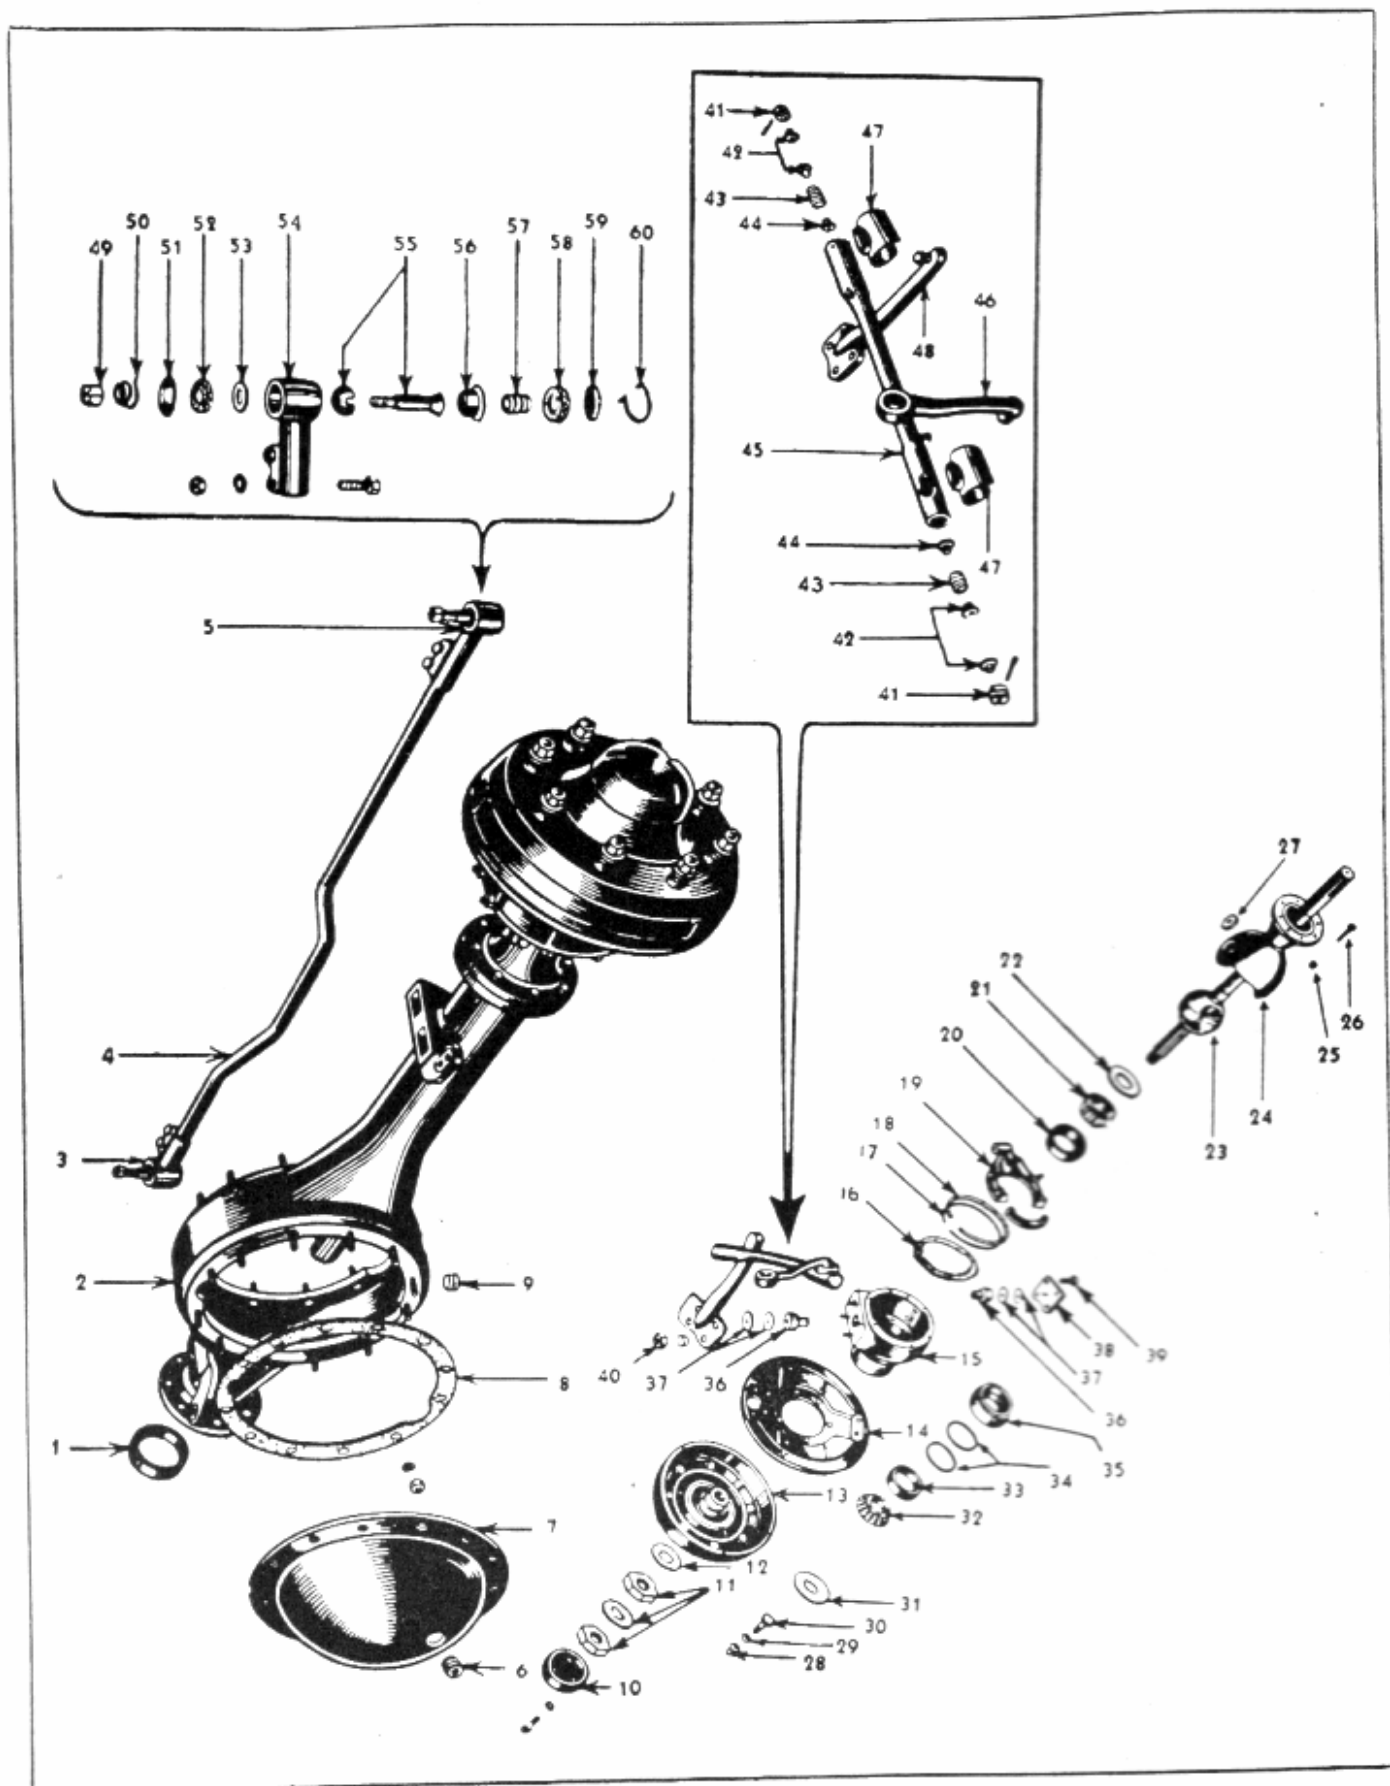
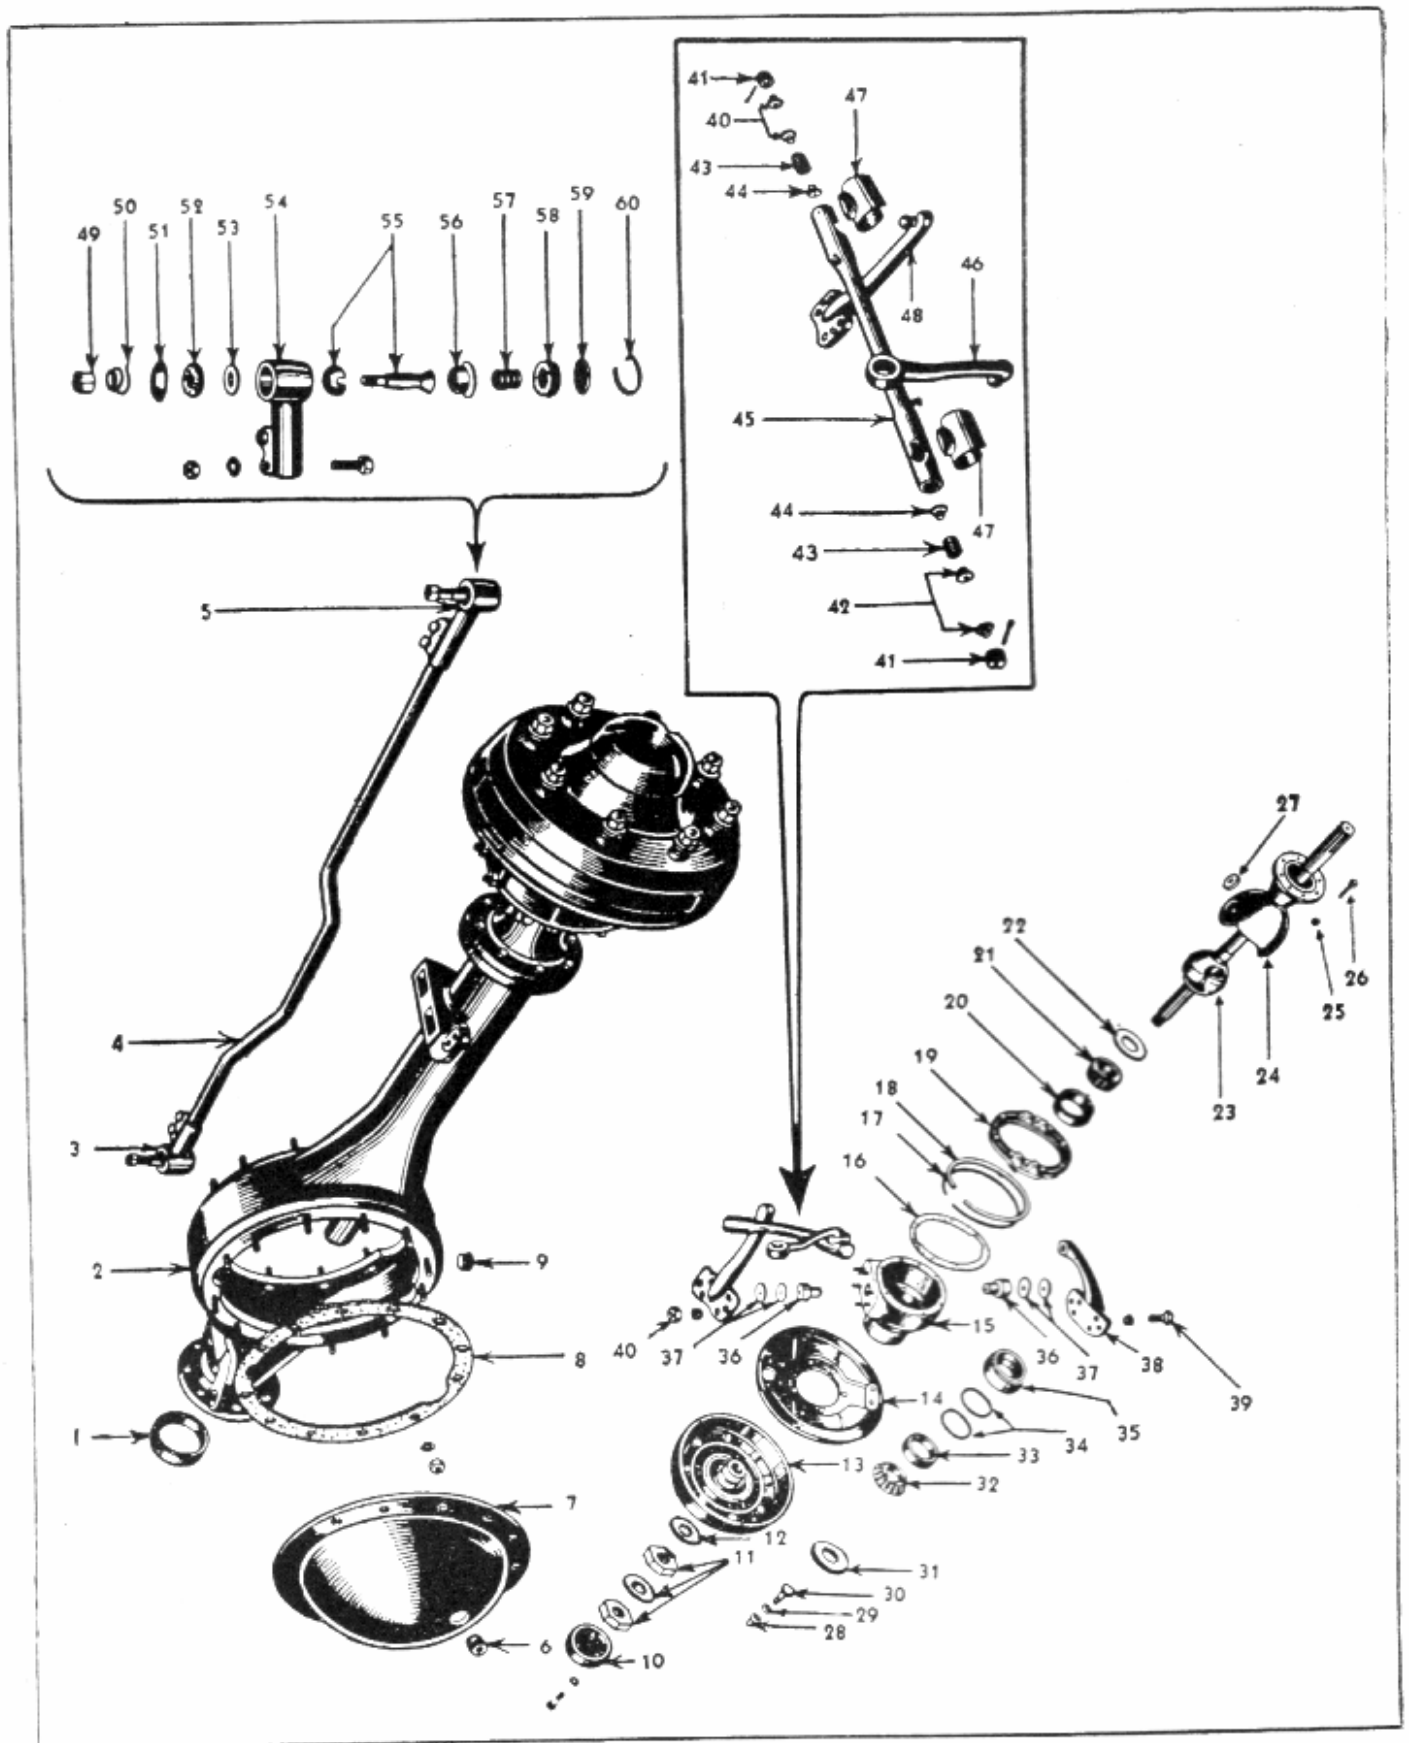

Fig. 1—Exploded View of the Front Axle Assembly, 5" Joint.
Fig. 2—Exploded View of the Front Axle Assembly, 6" Joint.
See Figs. 1 and 2 for an exploded view of the Front Axles and parts identification for 5" and 6" joints.
The front axle steering ends, (front axle universal joints), are 5" and 6" constant velocity, Bendix universal joint drive type. Refer to Fig. 1 for general layout of the 5" type and to Fig. 2 for the 6" type.
The two steering ends are similar but can be distinguished by design and method of attaching steering arms. On the 5" joint the steering arm is part of the steering knuckle retainer flange. See (19) Fig. 1.
On the 6" joint the steering arm is a separate part and attached to the lower part of the knuckle by six cap screws. See (38) Fig. 2.
CAPTIONS FOR FIGURE 1
CAPTIONS FOR FIGURE 2